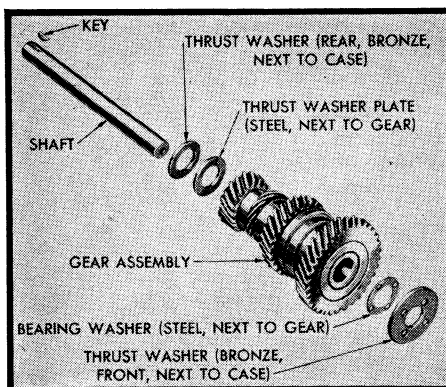

Fig. 13 Countershaft gear assembly and thrust washers
- Place countershaft assembly in bottom of case, being sure to keep thrust washers in place, Fig. 13.